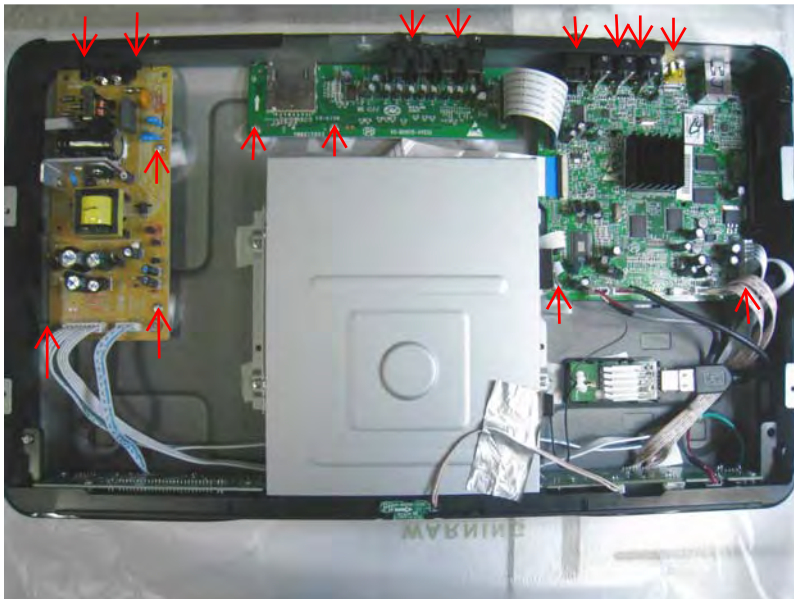

Figure 8
Step2: Dismantling Power Board,AV Board and Main Board,first disconnect connectors(CN504,XP1,XP8,XP2,XP9)(Figuer 2). Then remove 5 screws on Power Board to dismantle Power Board,4 screws on AV Board to dismantle AV Board,6 screws on Main Board to dismantle Main Board.(Figure 8)